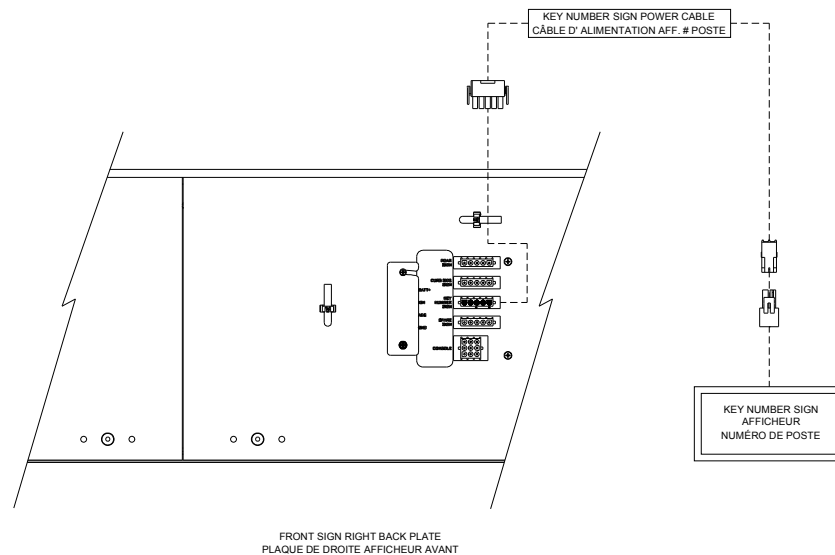

Figure 15: Key Number Sign Cable Connection
- Connect the power cable (5-pin connector) to the **KEY NUMBER SIGN** connector (5-pin connector) located on the Back Plate of the Front Sign. (See Figure 15).